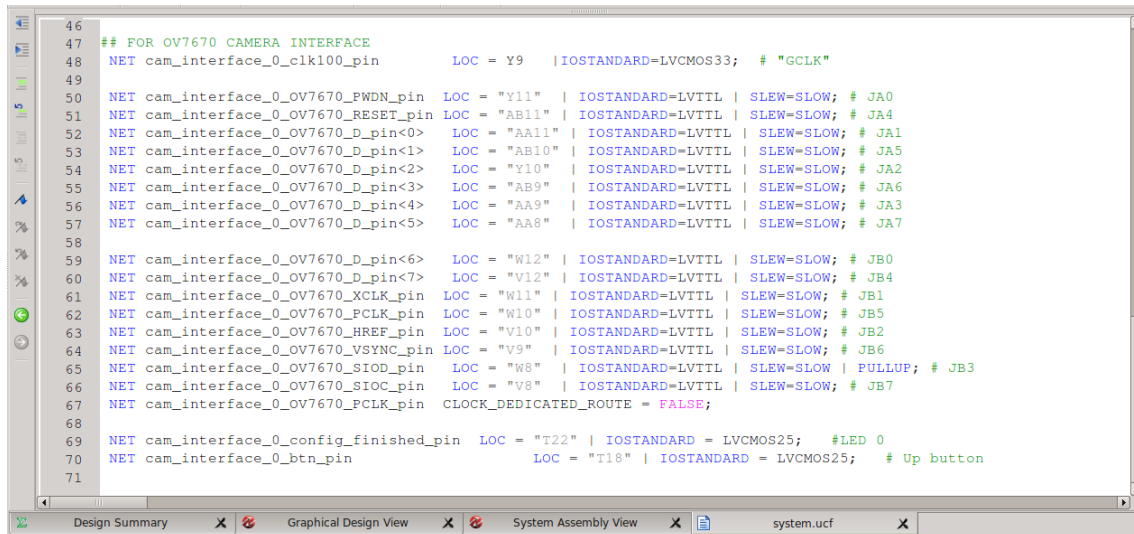

Figure 1.8.: Pin-mapping for Pmod connections for cam_interface_0 external ports.
9. For making the external connection of cam_interface_0 instance to Pmod connectors, external pin-mapping need to be defined in UCF file. Under Project tab on XPS (on left), double-click on the UCF File: *data/system.ucf*. At the end of *system.ucf* file, add these pin-mappings for Pmod connections (Figure 1.8),